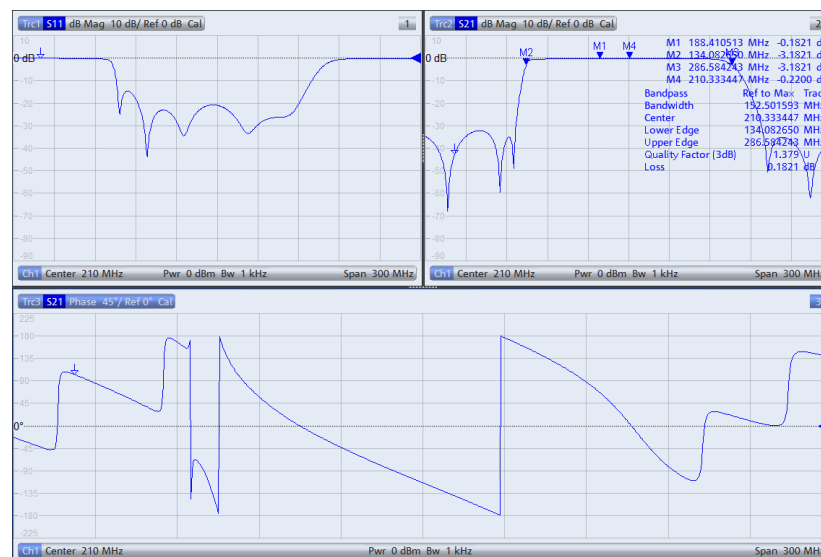

Fig. 5-12: Display of all key filter parameters in split screen.
- To display all three measured values (reflection, transmission and phase) in separate diagrams (Fig. 5-12), press the *DISPLAY* key and select *Split All*.